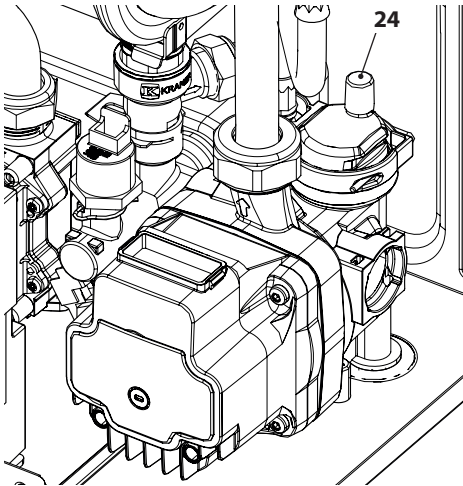

Figure 9.11
- To make draining easier, unscrew the automatic bleed valve cap 24 in Figure 9.11.